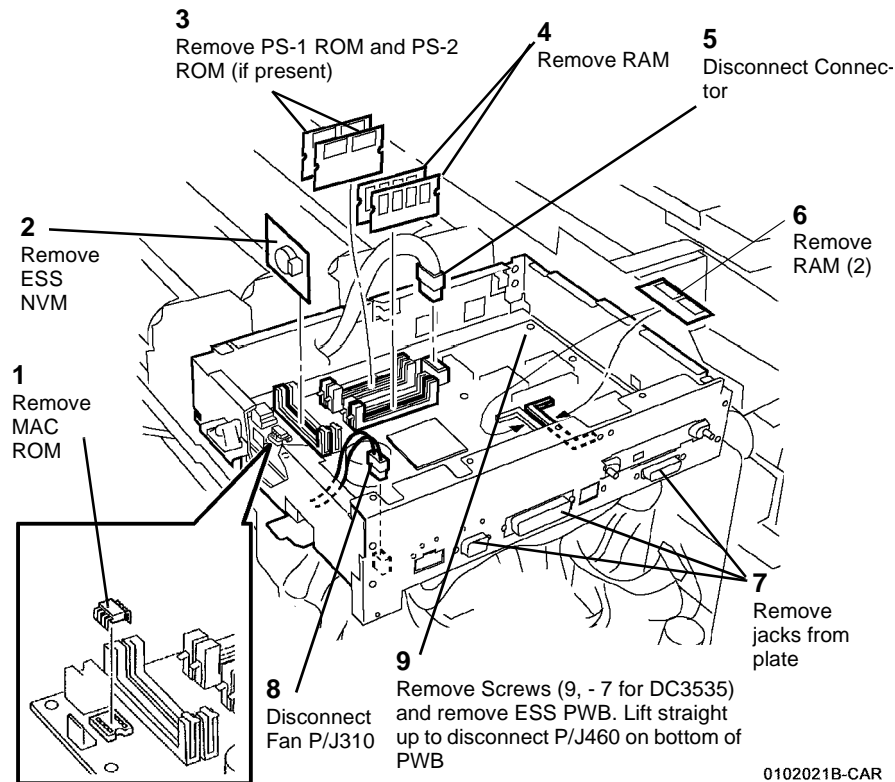

Figure 4 Removing ESS PWB
9. Remove the ESS PWB (Figure 4).